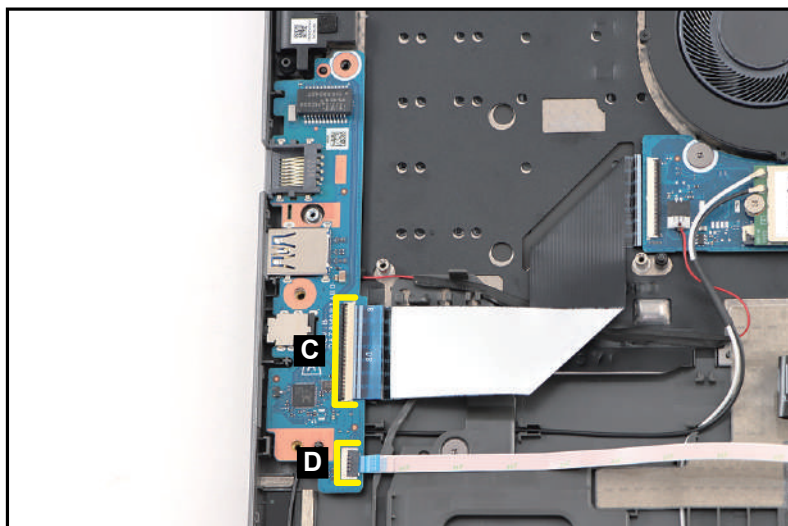

Figure 3-131. Replacing the USB Board
3. Connect the USB board FFC to the USB board connector (C). Then connect the fingerprint FFC to the USB board connector (D) (Figure 3-131).